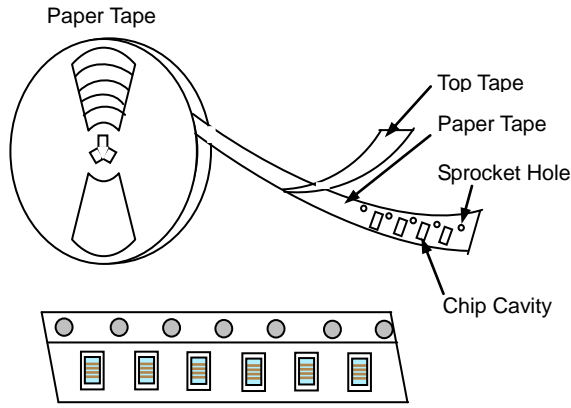

Fig. 7.1-1
- i. Tape carrier packaging are specified in attached figure **Fig.7.1-1~5**